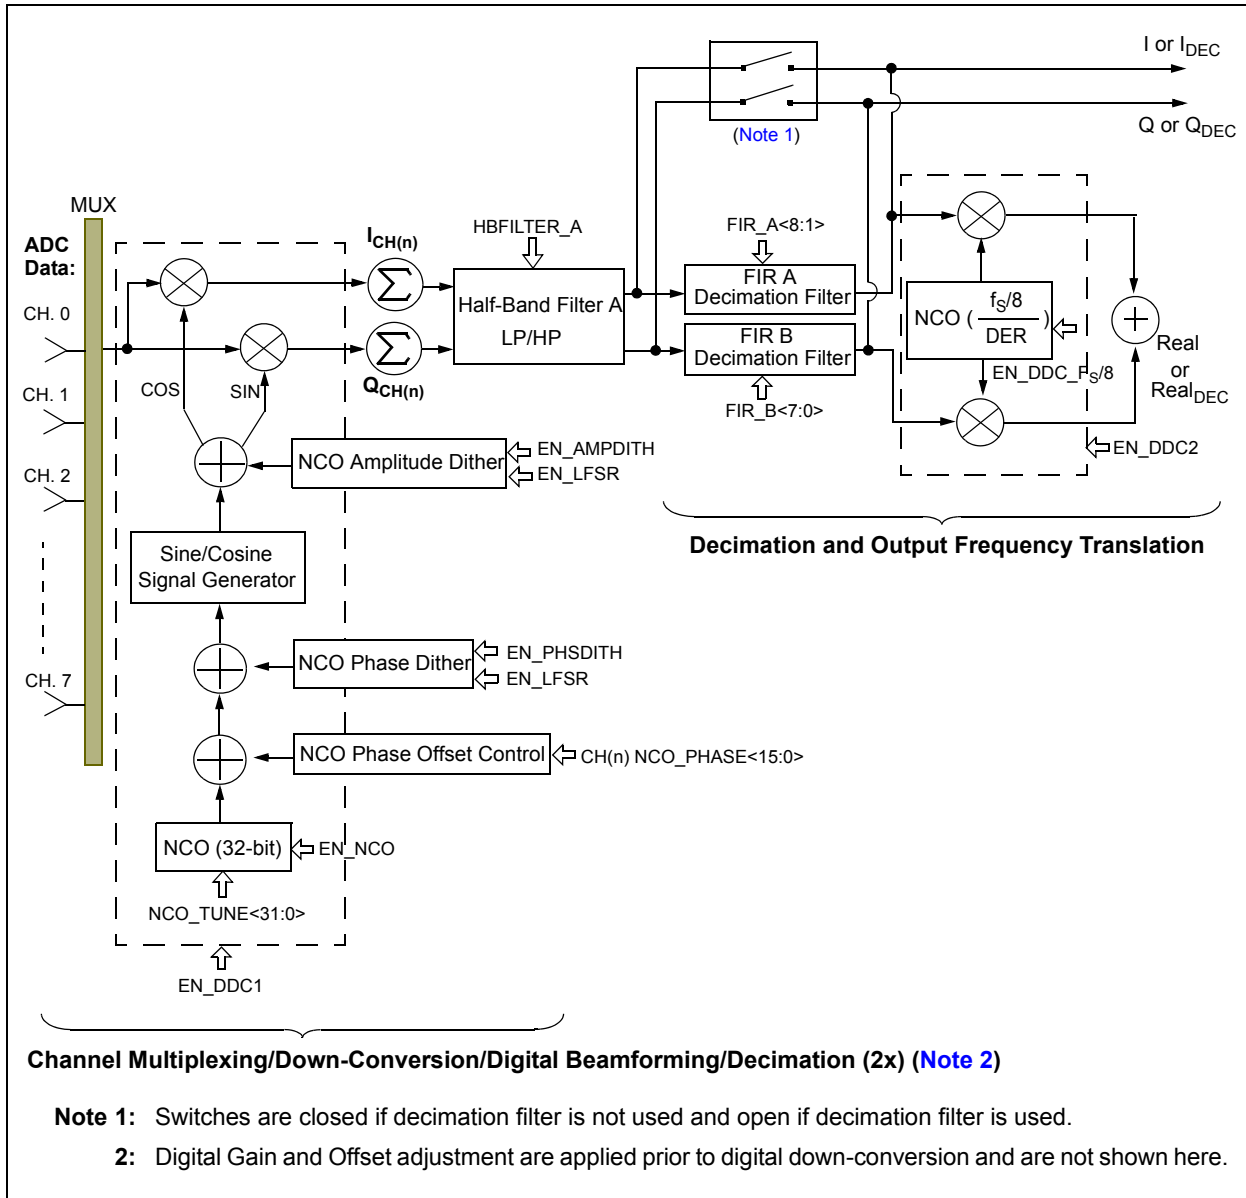

FIGURE 4-24: Simplified Block Diagram of CW Beamforming and I/Q Signal Processing – Available in MCP37D11-200 Only.
Along with the beamforming, many modern medical ultrasound devices support Doppler imaging which processes phase information in addition to the classical magnitude detection (for brightness imaging). The ultrasound Doppler signal processing is used to determine movement in the body as represented by blood flow, which can help to diagnose the functioning of a heart valve or blood vessel, etc. In a traditional ultrasound system, all of these functions are typically accomplished with discrete components. Figure 4-24 shows an example of an ultrasound system implementation using various specialized components.
- **Down-conversion for each channel** with a unique phase of the same NCO frequency prior to summing the eight channels as shown in Figure 4-24.